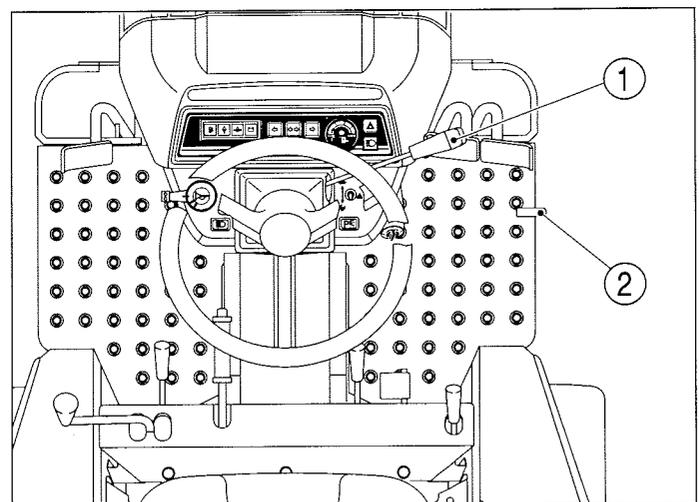

FIG. 23
FIG. 23: **Throttle lever (1)** - Controls engine speed and will remain in position selected by the operator. With hand lever forward (➡), engine will idle. Engine speed increases as lever is pulled progressively rearward (←).